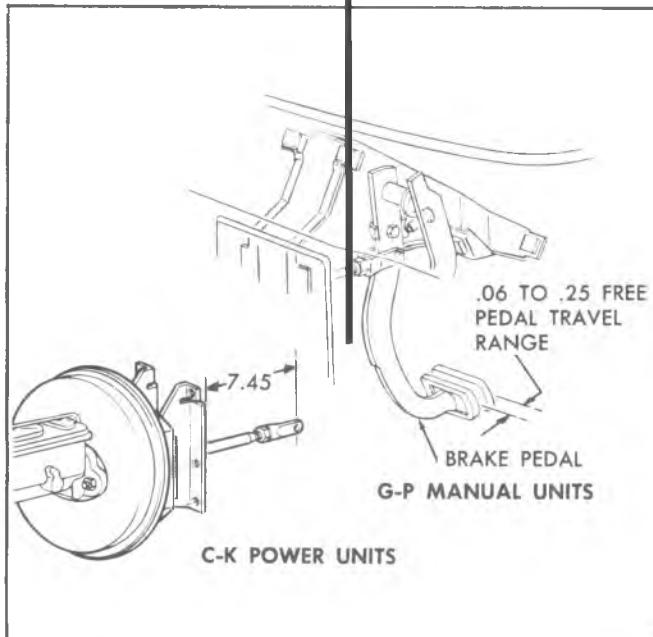

Fig. 42-Brake Pedal Adjustment-Typical
1. After the brake pedal and pedal bumper have been assembled, install the push rod and its attaching parts. Then to obtain the correct clearance between the push rod and the master cylinder, adjust the push rod so that the free pedal travel measured at the center of the pedal pad is .06-.25 inches (fig. 42).
push rod. Power brake units incorporate a two-piece push rod. Ordinarily there would be no reason to change the push rod dimension; however, if the rod were inadvertently lengthened or shortened, the correct dimension is given in Figure 42.